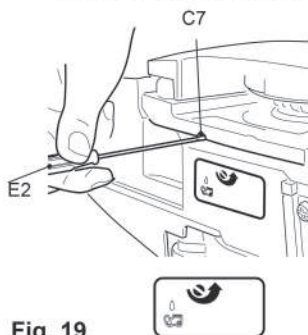

Fig. 19
- 4) Turn the adjustment screw (C7) of the oiler on the bottom of the product to adjust the chain oil flow with the multi tool (E2) (Fig. 19).